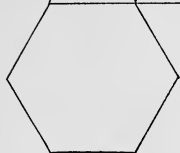

FIG. 57.
13. An *hexagonal pyramid* has a six-sided polygon for a base (Fig. 57).